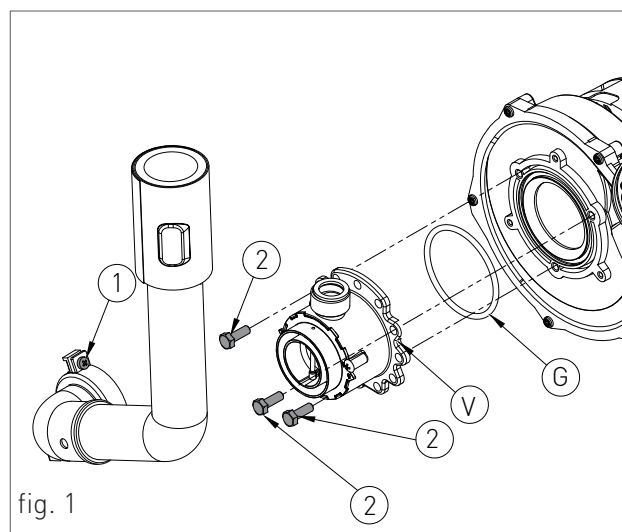
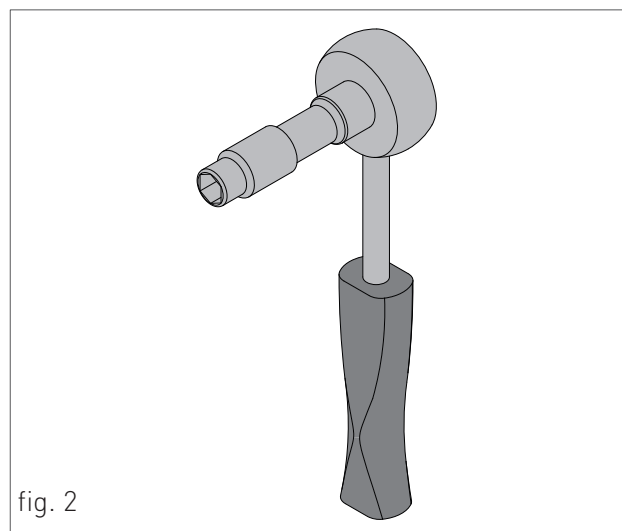

fig. 1
fig. 2
- › remove the fastening screws (1 - fig.1) placed on the lower edge of the front panel;
- › grab the front panel from the bottom and remove it pulling it to yourself and then upwards (see fig. 1).
- › remove the fastening screws (2 - fig.1) placed on the front edge of the side panel;
- › grab the bottom of the panel and remove it by moving it sideways and then pulling it upwards (see fig. 1).
- > Grab at the same time the support brackets of the control panel (fig. 1) loosening them and turn the panel downwards;
- > unscrew the two fastening screws 1 - fig. 1;
- > disengage the four hooks '2' - fig. 1;
- › turn the discharge tap of the system 'RS' (fig. 1);
- › loosen the two screws '1' (fig.1) from the fastening bush, and remove the air suction tube;
- › unscrew the three fastening screws '2' (fig.1) of the venturi 'V' (fig.1) using a 10 key, as shown in figure 2;
- › remount the components following the demounting operations in reverse making sure that gasket 'G' is re-assembled as shown in fig.1;